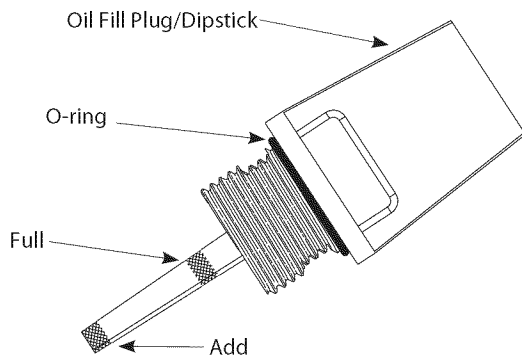

Fig. 16
5. Remove the oil fill plug/dipstick and check the oil level. Oil should be between the add and fill marks (Fig. 16).
NOTE: Make sure the O-Ring is in place on the oil fill plug/dipstick when checking and changing the oil (Fig. 16).
**NOTE:** Use the bottle saved from initial use to measure the correct amount of oil. The bottle measures approximately 2.5 fluid oz. (75 mL) (Fig. 16).